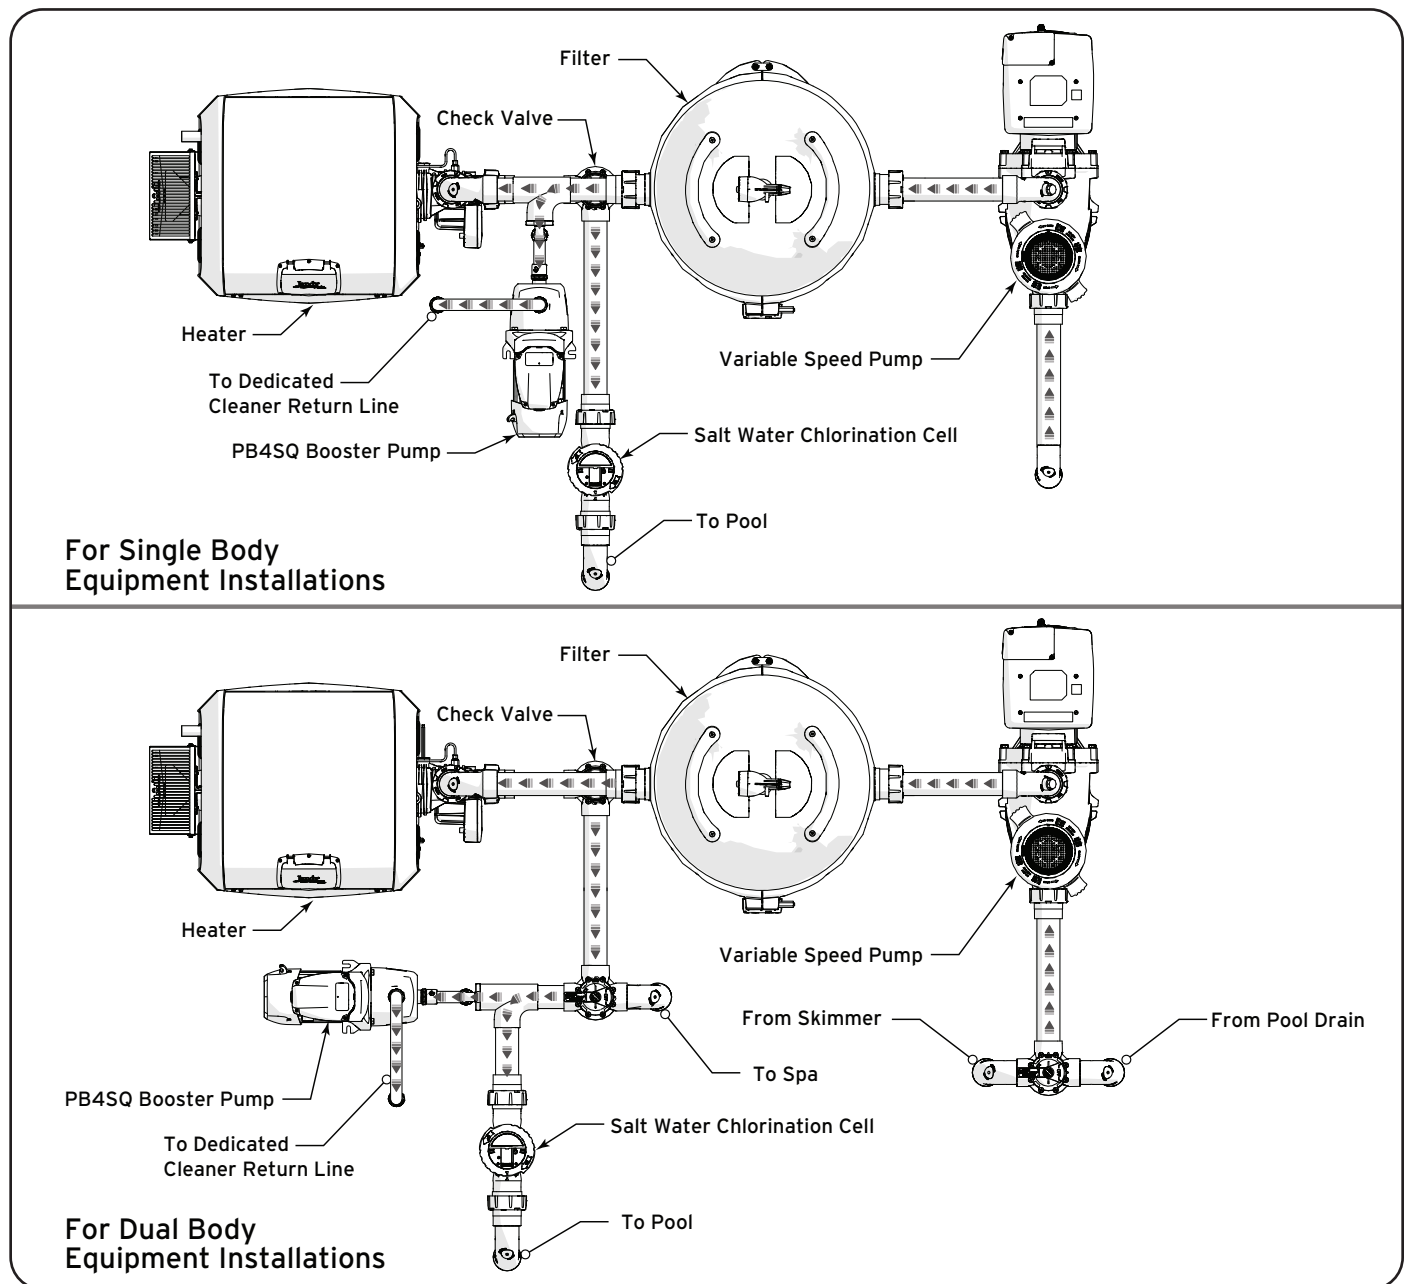

Figure 2. Typical Equipment Layout
- Pump must receive constant flow from the filter pump. The PB4SQ is **not** a self priming pump. See Figure 2.